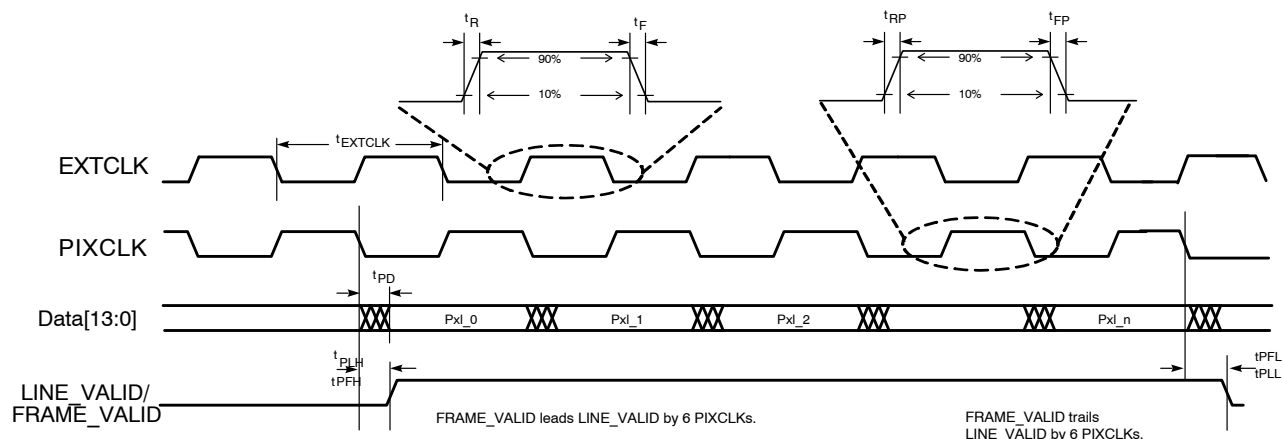

Figure 9. I/O Timing Diagram
See Figure 9 below and Table 8 on page 15 for I/O timing (AC) characteristics.